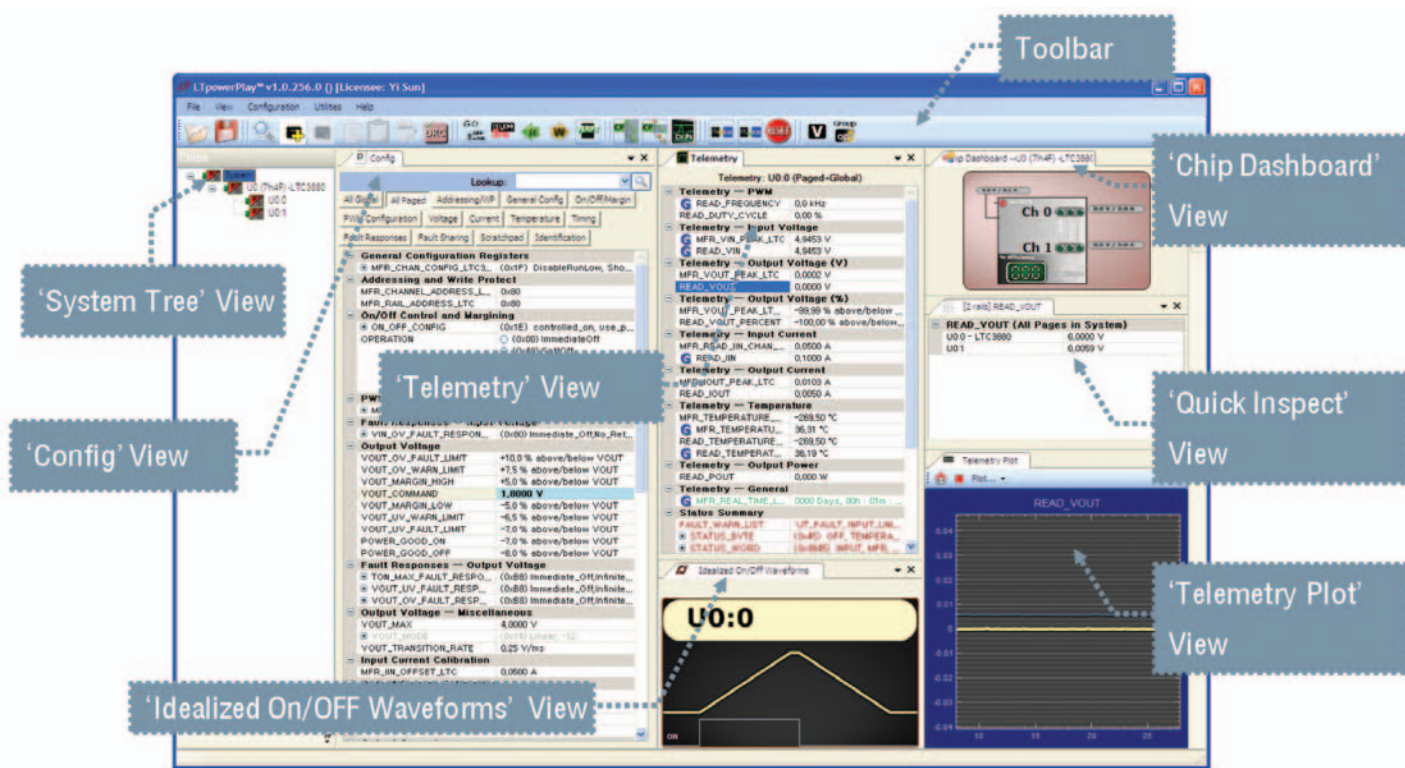

Figure 5. LTpowerPlay Interface of Programming the LTC3880
6. On your PC, launch LTpowerPlay. LTpowerPlay will identify the DC1709A and launch the appropriate GUI (see Figure 5).